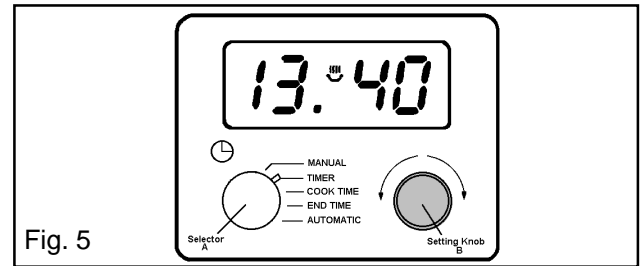

Fig. 5
At the end of the timed period, the timer will sound. To stop the sound, turn setting knob (B). The display will show the time of day and the cooking symbol will remain lit. If the signal is not cancelled the timer will sound for up to 2 minutes. Fig. 5.